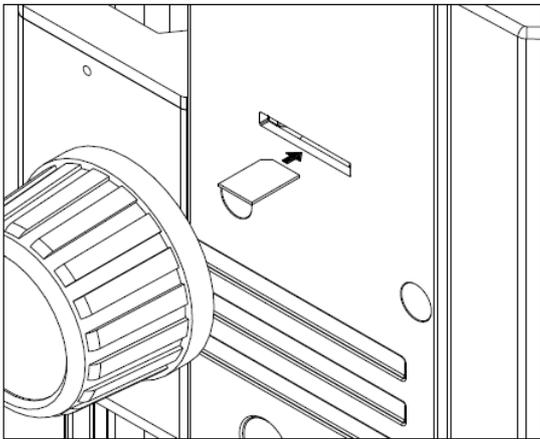

Fig. 18
2. Camera button ②: when the camera is working, press once to capture picture.
3. Video button ③: when the camera is working, press down for the first time to start recording, and press again to end recording.
4. HDMI cable interface ④, connect the HDMI cable to output the high definition image signal.
5. USB interface ⑤: connect the USB cable with the devices as mouse and USB disk.
6. MINI interface ⑥: connect the MINI cable to output the USB function image.
7. SD card is as shown in the figure, face the chamfer to the left and insert it to the bottom. (Fig. 18)